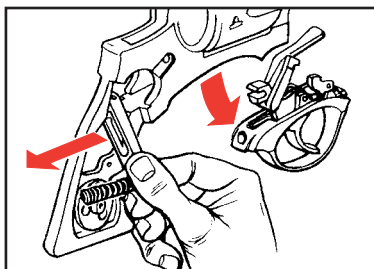

Figure 12
6. Pull the trigger guard latch to the rear (using the mainspring lever) and simultaneously pull the trigger guard assembly, intact, out from the bottom of the frame (See Figure 12).